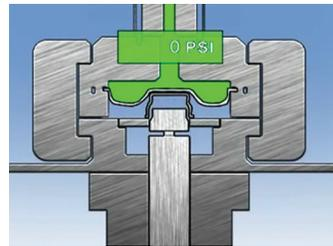

Figure 8: Release pressure.
- Sheet metal formed to the shape of the form block (Figures 8 and 9).